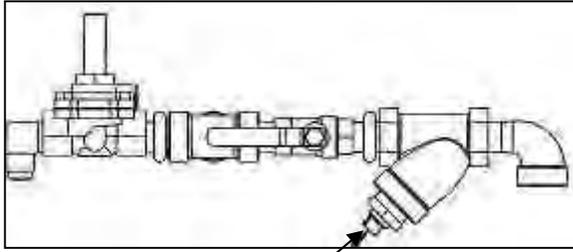

Fig. 4-1 – Remove gas strainer/filter at hex nut
6. Remove and clean gas strainer as shown in Fig. 4-1.